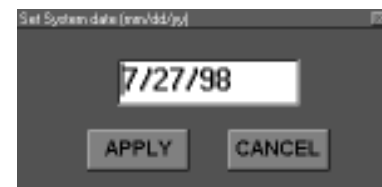

Figure 23: Set System Date
6. Refer to *Figure 23* for the SET SYSTEM DATE menu that will appear.